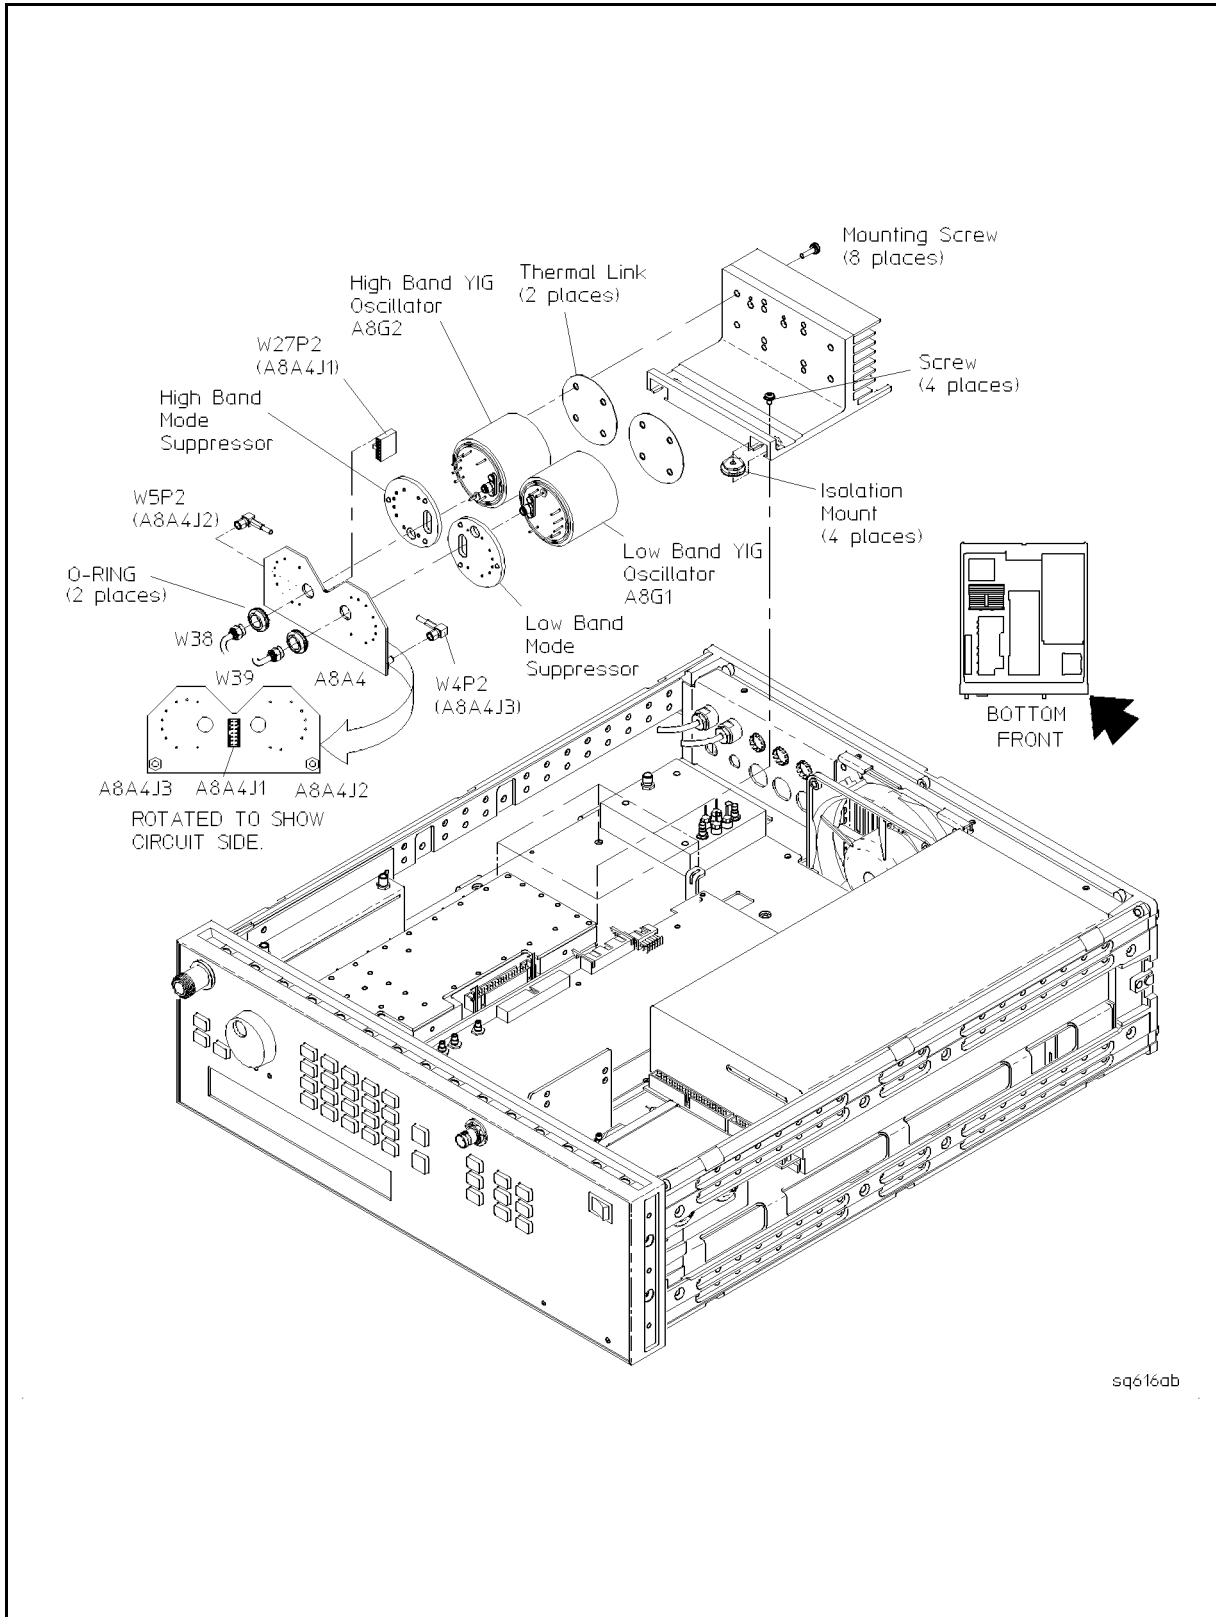

Figure 5-27. YIG Oscillator Removal
3. In the “Special Techniques” section of this chapter, refer to “Semi-Rigid Coaxial Cables” and Figure 5-27. Then, using a 5/16 in open end wrench, remove the following two semi-rigid coaxial cables connecting the YIG oscillators to the Output Module:
5. Lift up W19 (Step Attenuator grey ribbon) cable in order to expose two of the four isolation mounts and heatsink mounting screws. See Figure 5-27.
6. Using a size 15 TORX[®] screwdriver, remove these four screws. See Figure 5-27.
8. Using a *slight* side to side rocking motion, carefully loosen and pull off the printed circuit board, A8A4, from the YIG oscillators. See Figure 5-27.
10. Using a 7/64 inch Pozidrive® screwdriver, remove the four oscillator mounting screws from the YIG oscillator and Heatsink. Refer to Figure 5-27.
12. Refer to “Semi-Rigid Coaxial Cables” as well as Figure 5-27, and then connect the following:
3. In the “Special Techniques” section of this chapter, refer to “Semi-Rigid Coaxial Cables,” as well as Figure 5-27, and then remove cable W39 from low band oscillator output A8G1J1 and Output Module 2–10 GHz IN, A8A1J36.